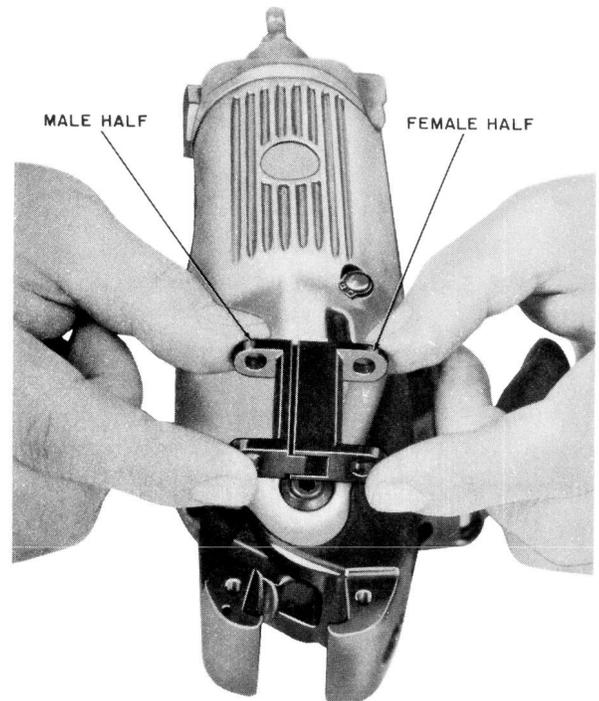

Fig. 4—F Presser Die in Correct Position for Placing in Jaws
- (a) Place the halves of the die together with the male part in the right hand and the female in the left as shown in Fig. 4.